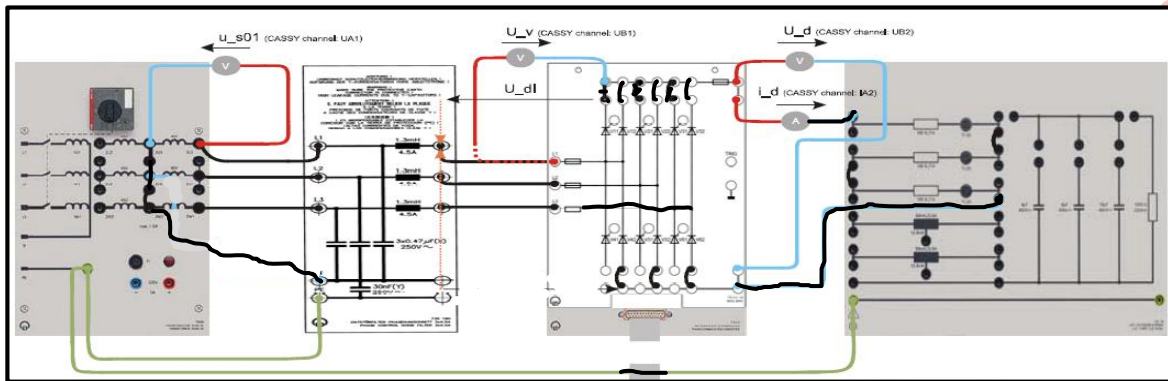

Figure 1.4 Configuration of a Three-Phase Full-Wave Rectifier supplying a resistive load
- Connect the components as shown in Figure 1.4. The load is resistive of 300Ω (3 resistors in series, of 100Ω each).